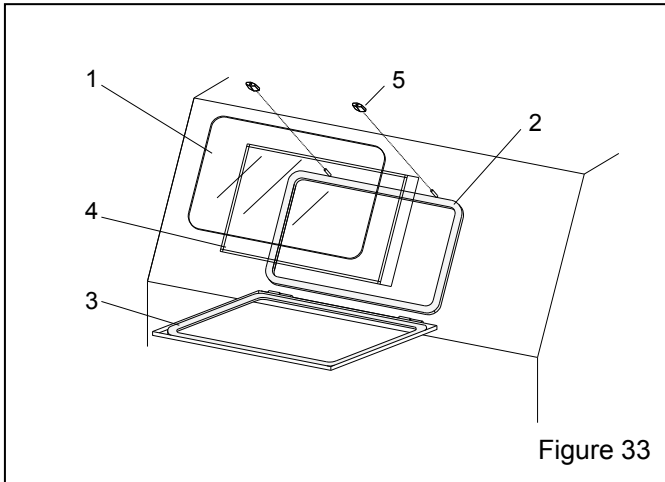

Figure 33
9.4 View Window Assembly, Figure 33